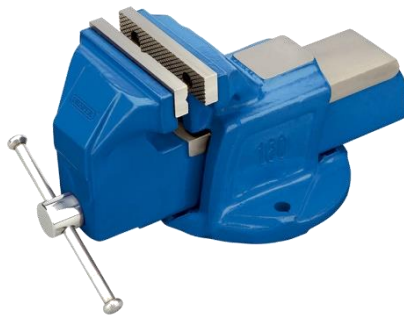

Fig. 9
- 11 Shown in Figure 9 below is a drawing of an engineer's vice.